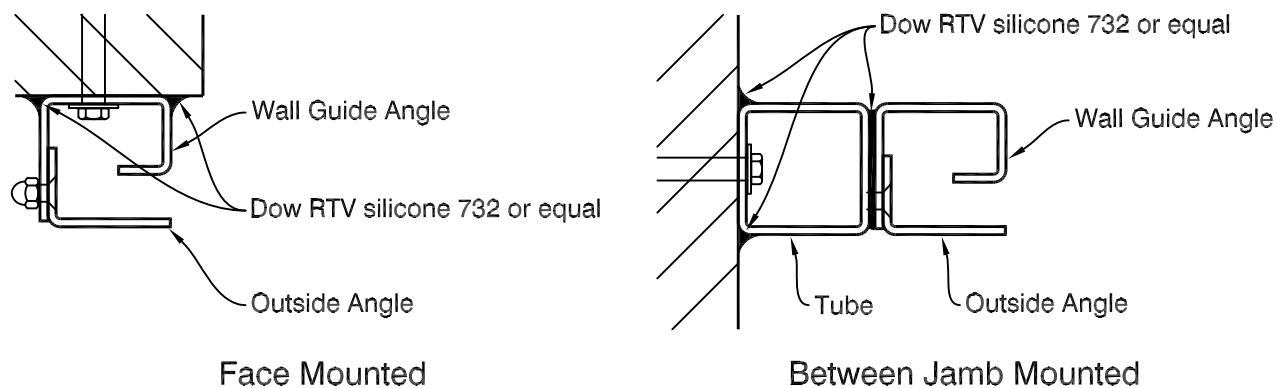

Fig. 21
1) Apply silicone along the full length of the guides along each edge that comes in contact with the jamb. For between jamb mounting, silicone must be applied in between the tube and the wall guide angle as shown in Fig. 21.